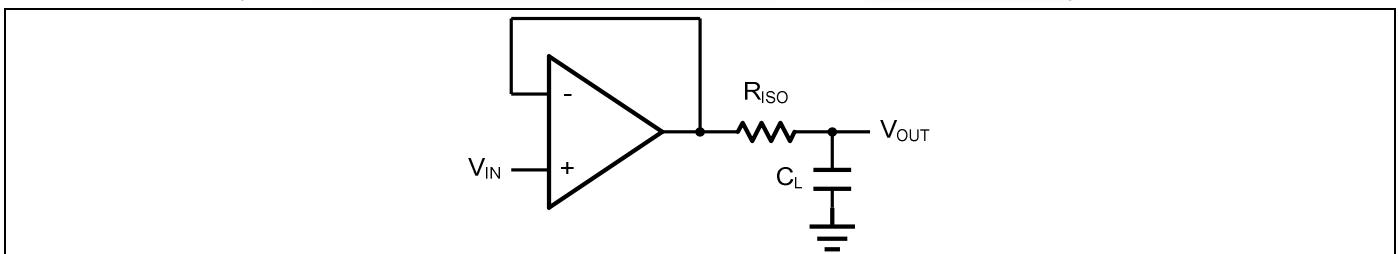
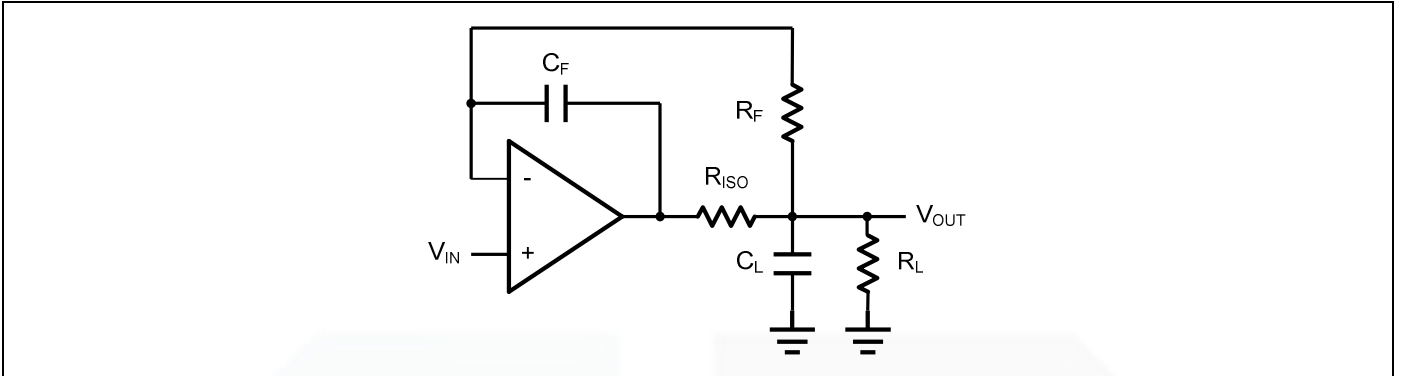

Figure 2. Indirectly Driving a Capacitive Load Using Isolation Resistor
Figure 3. Indirectly Driving a Capacitive Load with DC Accuracy
The GS863x family is optimized for bandwidth and speed, not for driving capacitive loads. Output capacitance will create a pole in the amplifier's feedback path, leading to excessive peaking and potential oscillation. If dealing with load capacitance is a requirement of the application, the two strategies to consider are (1) using a small resistor in series with the amplifier's output and the load capacitance and (2) reducing the bandwidth of the amplifier's feedback loop by increasing the overall noise gain. Figure 2. shows a unity gain follower using the series resistor strategy. The resistor isolates the output from the capacitance and, more importantly, creates a zero in the feedback path that compensates for the pole created by the output capacitance.
The circuit in Figure 3 is an improvement to the one in Figure 2. R_{F} provides the DC accuracy by feed-forward the V_{IN} to R_{L} . C_{F}